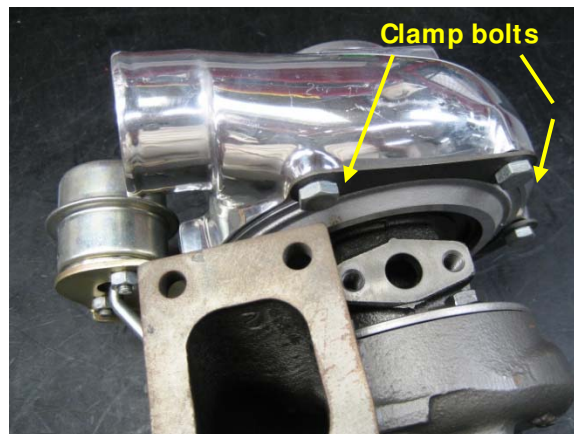

Fig. 1
1. Remove the compressor housing from your turbocharger. This may necessitate removing the turbo from the vehicle, if it is already installed. Typically the compressor housing is attached to the turbo using a v-band clamp or bolted clamps. Remove all bolts, clamps, and the wastegate actuator – whatever is necessary to separate the compressor housing from the turbo (see fig. 1). Do not loosen the wastegate rod end or lock nut, and do not adjust the actuator; simply unbolt its bracket from the compressor housing.